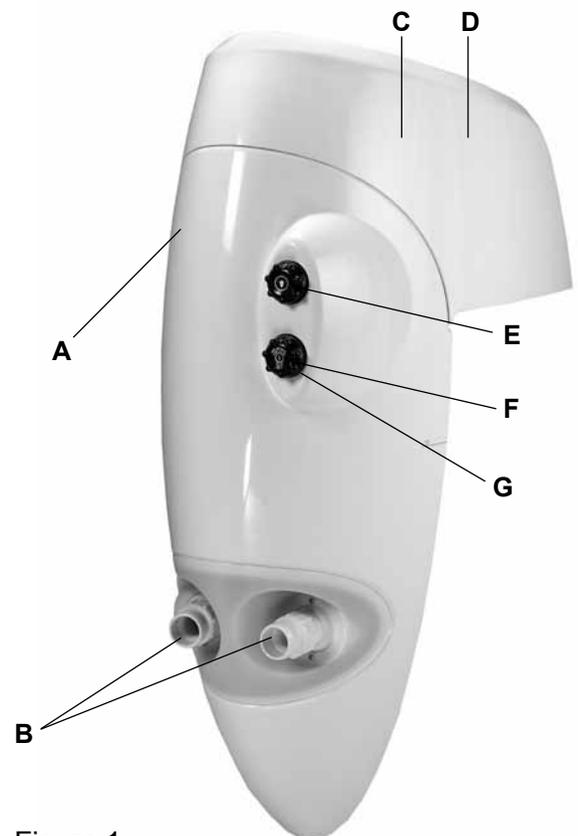

Figure 1
2. Inspect the contents of the carton and verify that all parts are included. All parts are manufactured of corrosion-resistant material and combined in one housing which can be installed in pools of any size and shape. (See *Figure 1*)